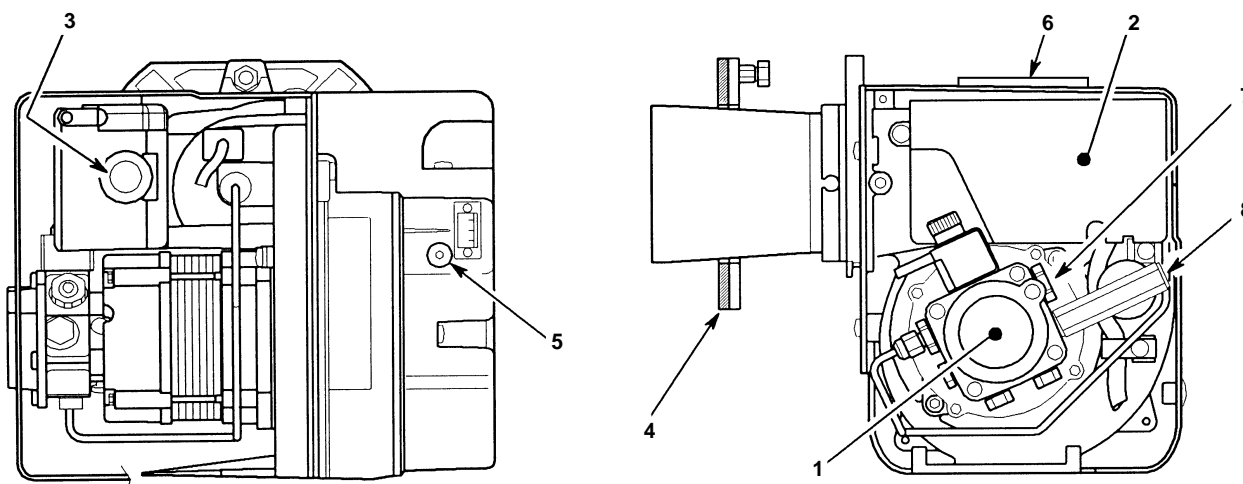

Fig. 18 - RDB burner components
- 4 Connect a combined vent manifold and pressure gauge to the pressure gauge connection port on the oil pump. See Fig. 18. Open the vent screw on your vent manifold to vent the supply while the pump is running.
- 8 With the burner alight, check the fuel pressure. Refer to the Technical Information, Sections 2.2 and 2.3. Adjust the pressure if necessary - see Fig. 18.
- 13 Check the smoke number, if satisfactory check the CO₂. Adjust the burner air regulator, see Fig. 18. Turning the screw anti-clockwise closes the damper and increases CO₂ level, turning the screw clockwise opens the damper and reduces CO₂ level. Re-check the smoke number if the air damper has been moved.